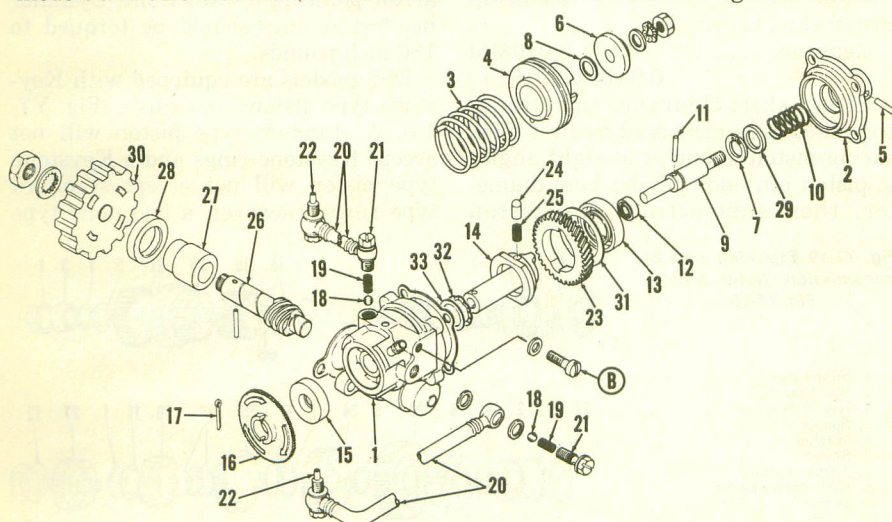

Fig. Y7-6—Exploded view of the oil injection pump unit.
If oil lines are drained or pump is removed, it is important that all lines be filled, before starting engine. Remove bleeder screw (B—Fig. Y7-5) and pull the control cable up out of cable guide (3). Turn starter plate (16) until oil without air bubbles flows from the bleeder screw hole, then reinstall bleeder screw (B) and start engine. Run engine at idle speed until oil delivery lines (20—Fig. Y7-6) are free of air bubbles.